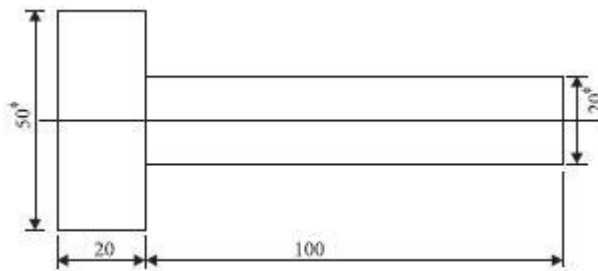

Fig. 5.8
- 8 150 components, as shown in Fig. 5.8 are to be made by upsetting a f 20 mm bar. Estimate BT2 the net weight, gross weight and length of f 20 mm bar required. The density of material may be taken as 7.86 gms/cc. (16)